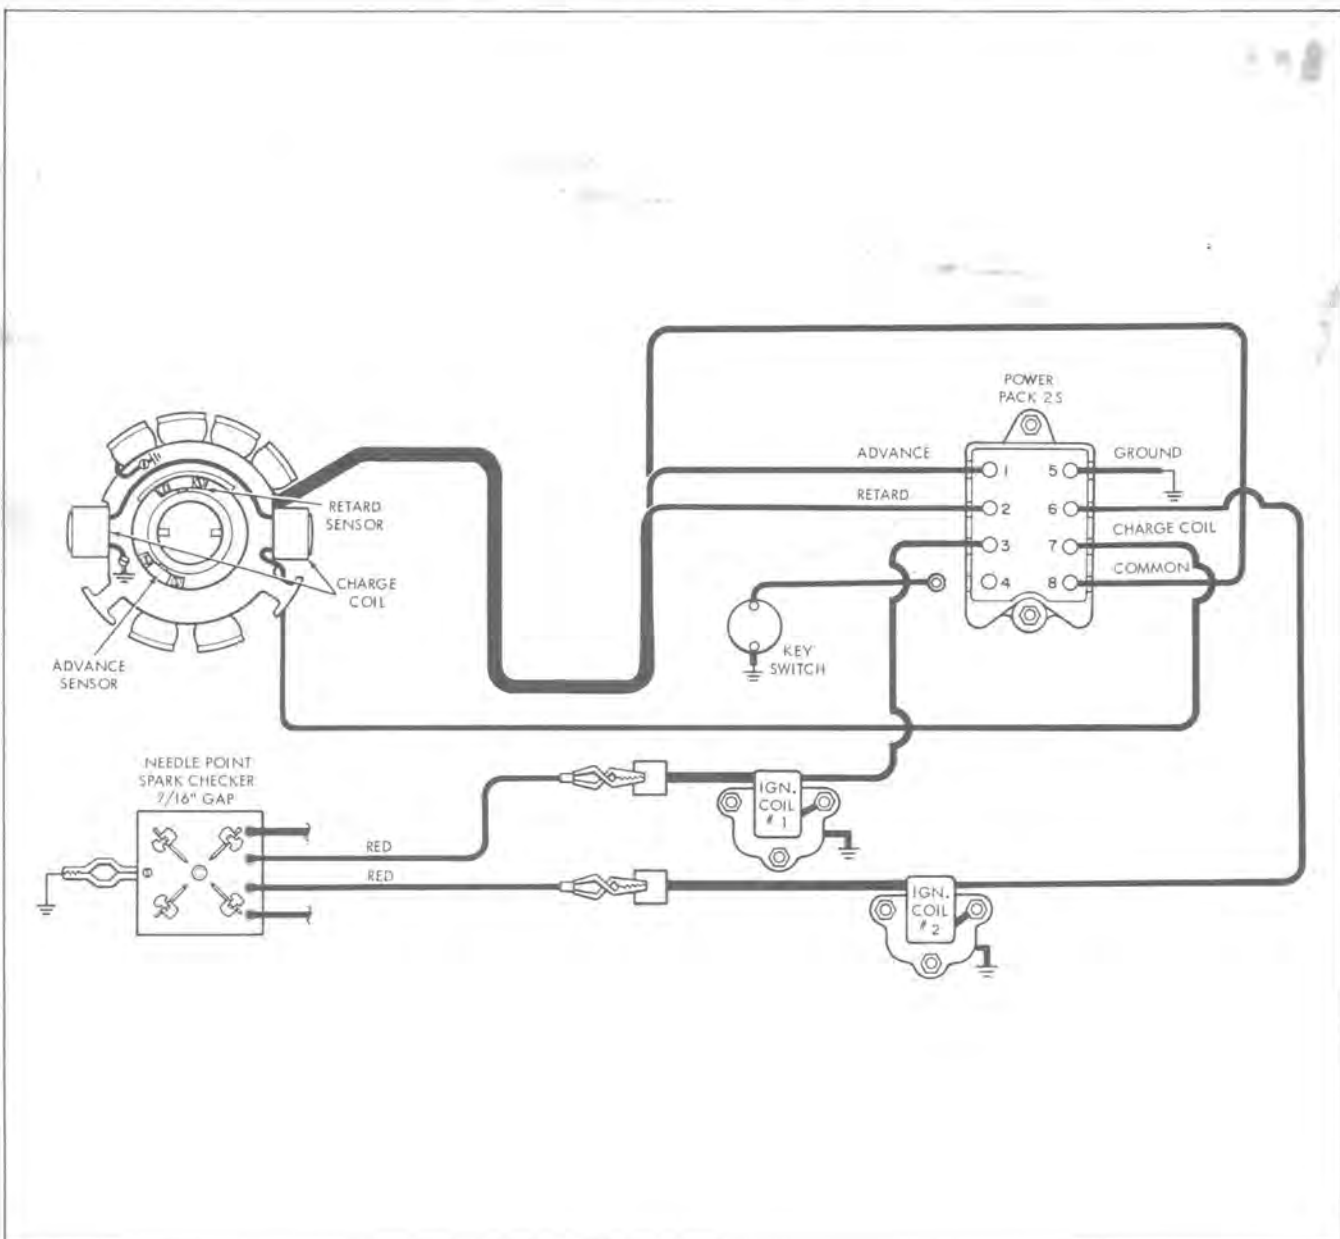

Figure 7-12
- A. Disconnect orange/black lead from Power Pack terminal #4. See Figure 7-12. Crank engine, if spark present go to step "B." If no spark go to Test #3.